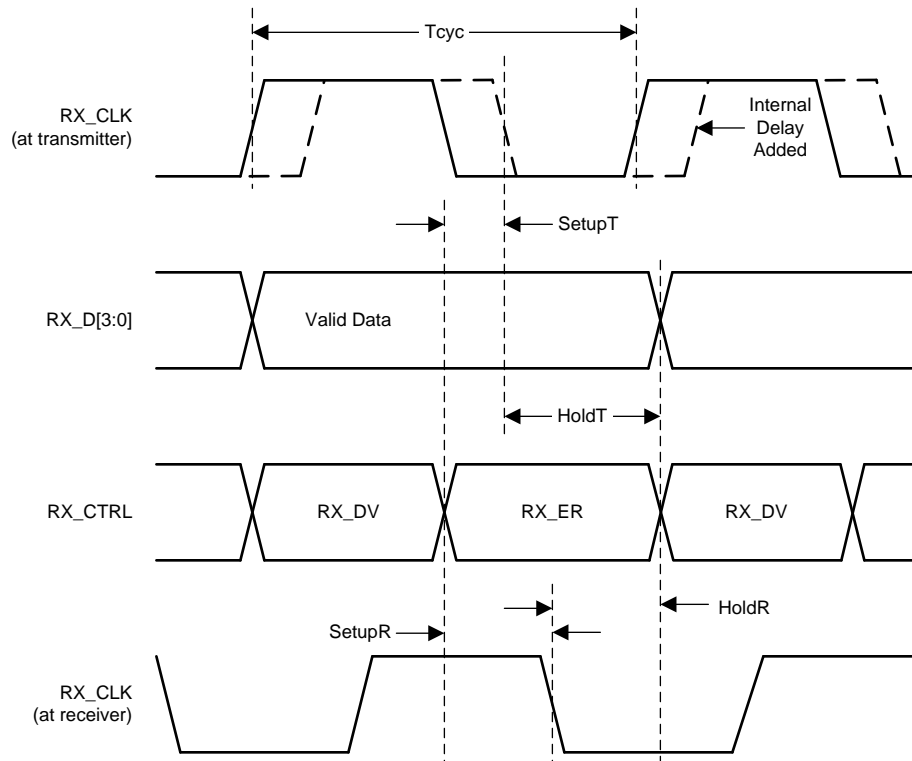

**图 9. RMII Receive Timing**
(1) Ensured by production test, characterization or design.
(2) See Figure 9.